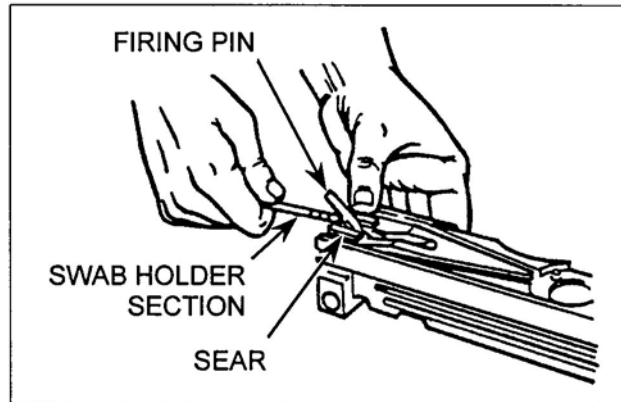

Figure 36. Testing of the firing pin release.
- (12) Test firing pin release. Trip the firing pin by depressing the top of the sear with a section of a swab-holder. If doing so makes a sharp metallic sound, then the firing pin spring is in good condition (Figure 36).